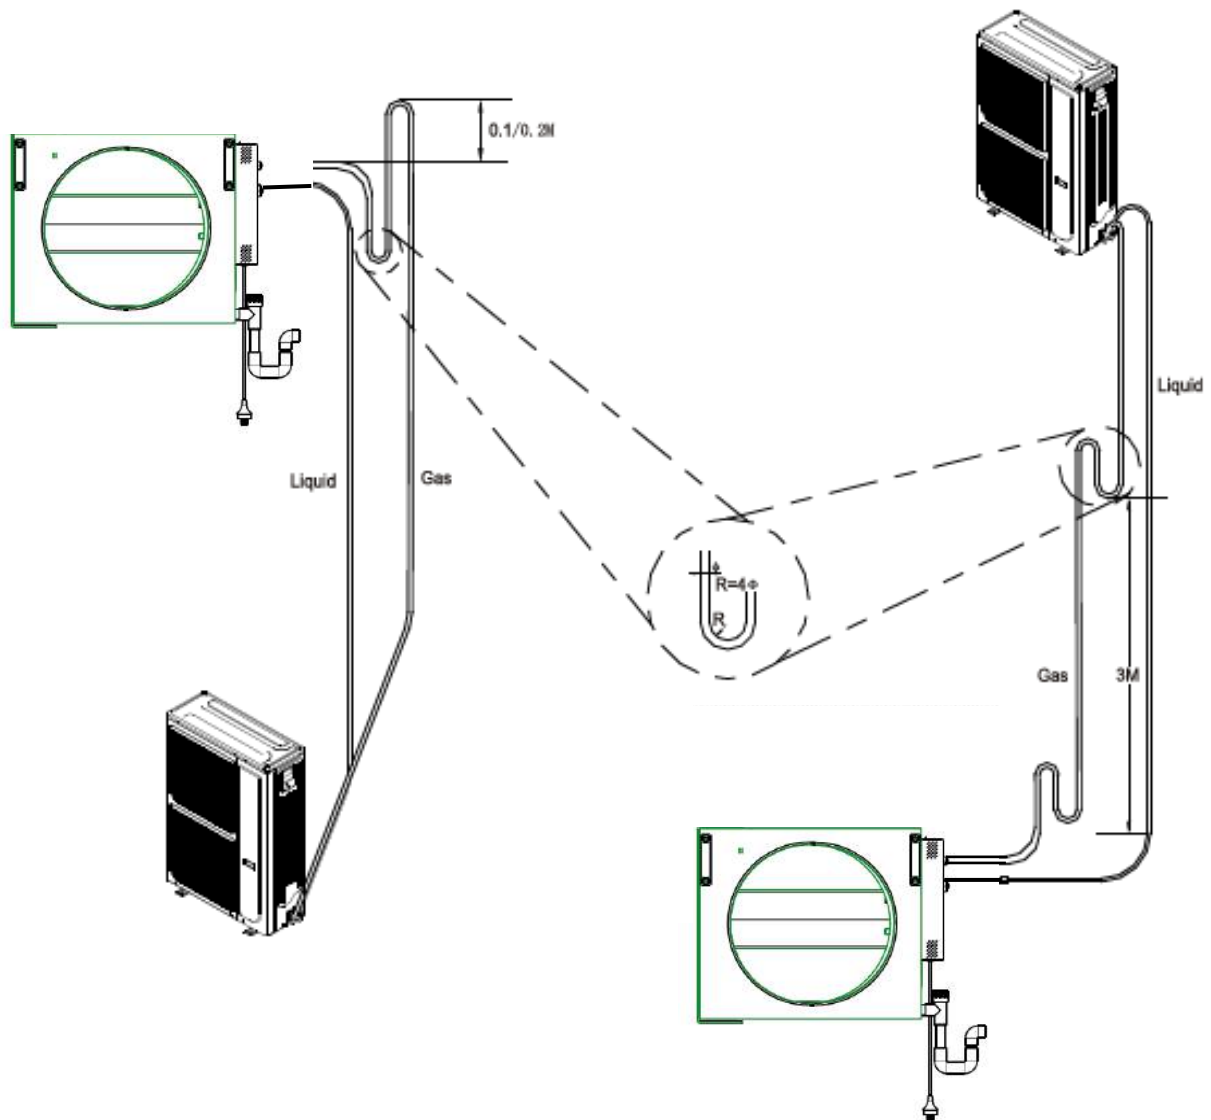

Fig. 17 – Piping Diagram
- **If the indoor coil is located above the condensing unit the suction line shall have a loop at the evaporator outlet to prevent refrigerant drainage into the compressor during off cycle (see Fig. 17)**
- If the evaporator is located below the condensing unit, then the suction riser shall be U-Trapped at 3m above ground level (see Fig 17)